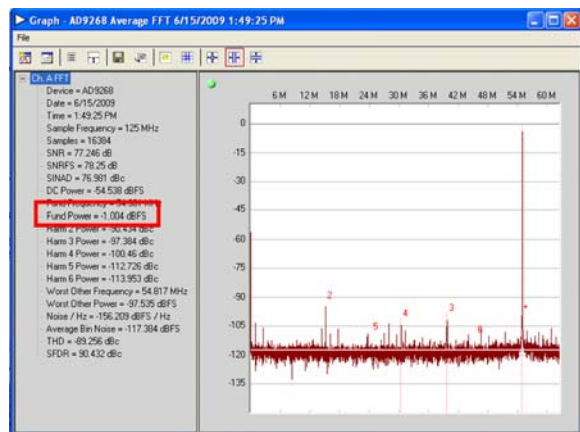

Figure 13. Graph Window of VisualAnalog
- Adjust the amplitude of the input signal so that the fundamental is at the desired level. (Examine the **Fund Power** reading in the left panel of the **Graph - AD9265 Average FFT** window, see Figure 13.)